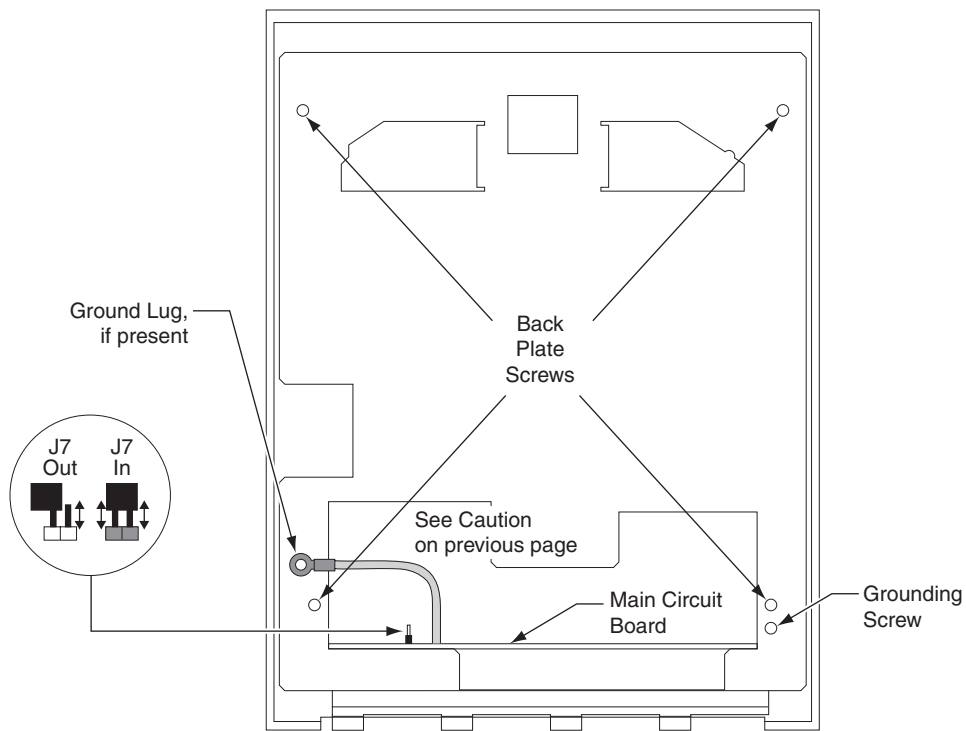

Figure 2
▲ CAUTION: If the unit is equipped with an optional battery backup, remove the J7 jumper before proceeding. Refer to figure 2 on the next page for location of J7.
5. Set the reader on a firm surface such as a table. Remove the four screws that secure the back plate to the HandReader. Remove the grounding screw and/or ground lug (if present). See figure 2 on next page.